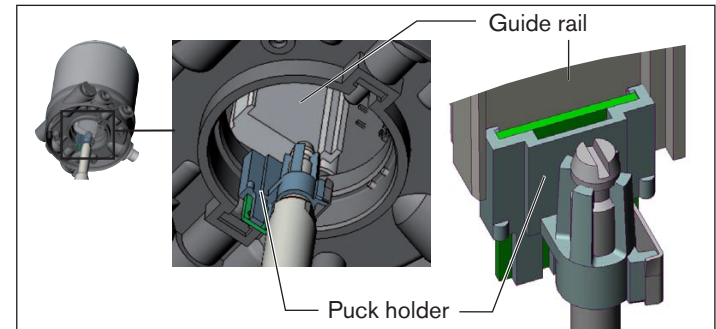

Fig. 4: Aligning the puck holder
1. the puck holder can be inserted into the guide rail of the positioner (see “Fig. 4”) and